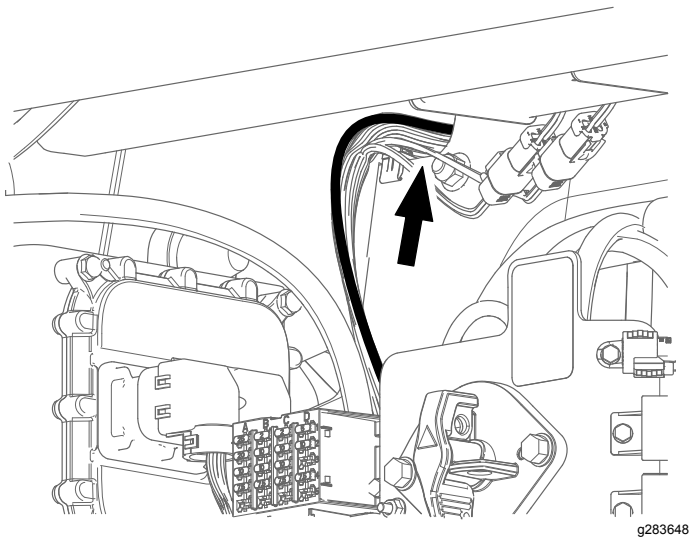

Figure 10
- 8. Route the left light and switch connectors through the hole on the left side of the machine (Figure 10).